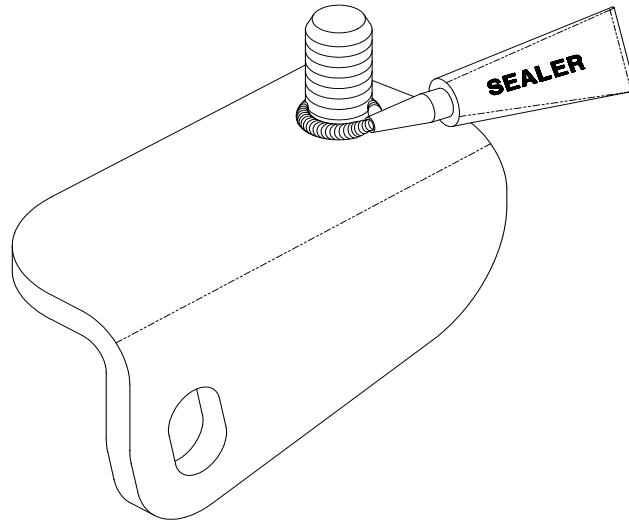

Figure 6
11. To seal the drilled hole against corrosion, insert the bolt into the bracket, apply a bead of the supplied sealer as shown in **Figure 6**, then install bolt with bracket into the drilled bumper hole.